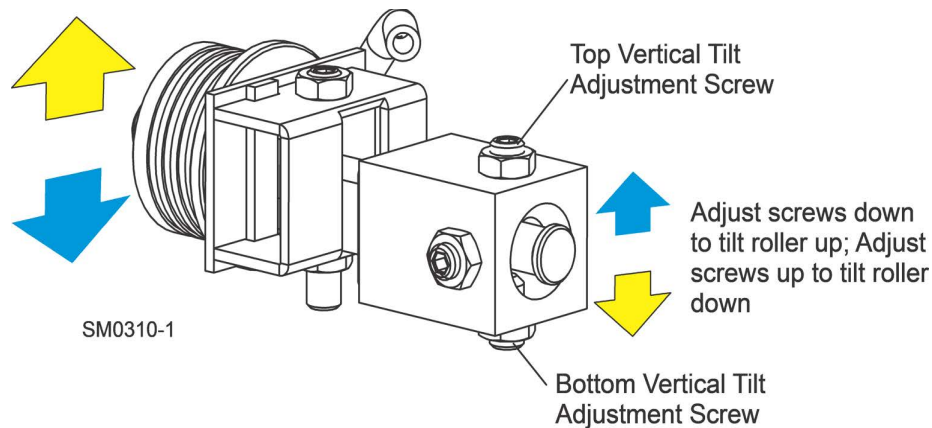

FIG. 7-5
7. Loosen one set screw at the side of the blade guide assembly. See FIG. 7-5.